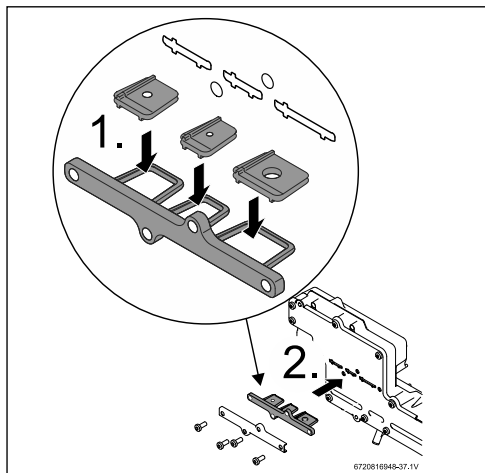
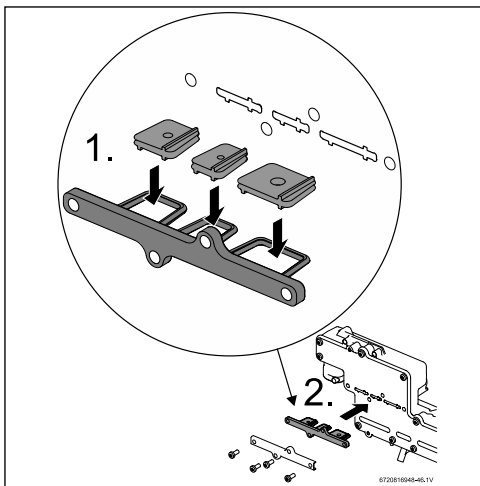

Fig. 51 199kBTU appliance gas conversion kit
Fig. 52 160kBTU appliance gas conversion kit
- ▶ The 3 restrictor plates should be pre-assembled onto their tray, but if loose in box, follow installation instruction, as shown in fig. 51 [1].
- ▶ Insert the LP conversion plate in the appropriate location shown in Fig. 51 [2].
- ▶ All three flow restrictors and seal must be assembled according to the Fig. 51 and Fig. 52, to ensure correct appliance performance.